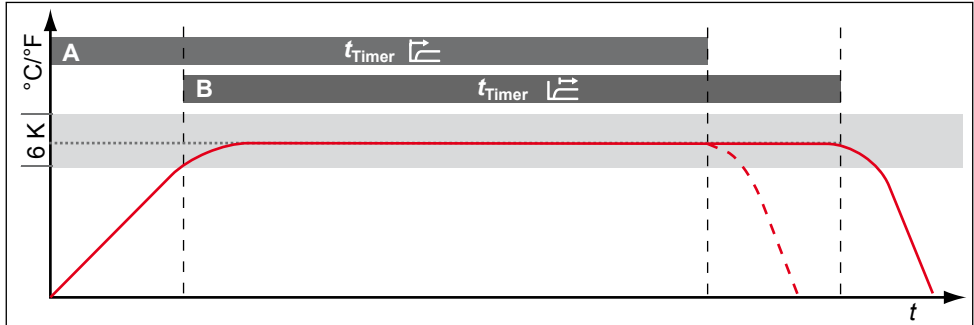

Fig. 25 Timer Mode
Here, you can choose whether the digital backwards counter with target time setting (see page 28) should run setpoint-dependent or not. This determines whether the timer should not start until a tolerance band of  $\pm 3$  K around the set temperature is reached (Fig. 25, B) or if it should start right after activation (A).